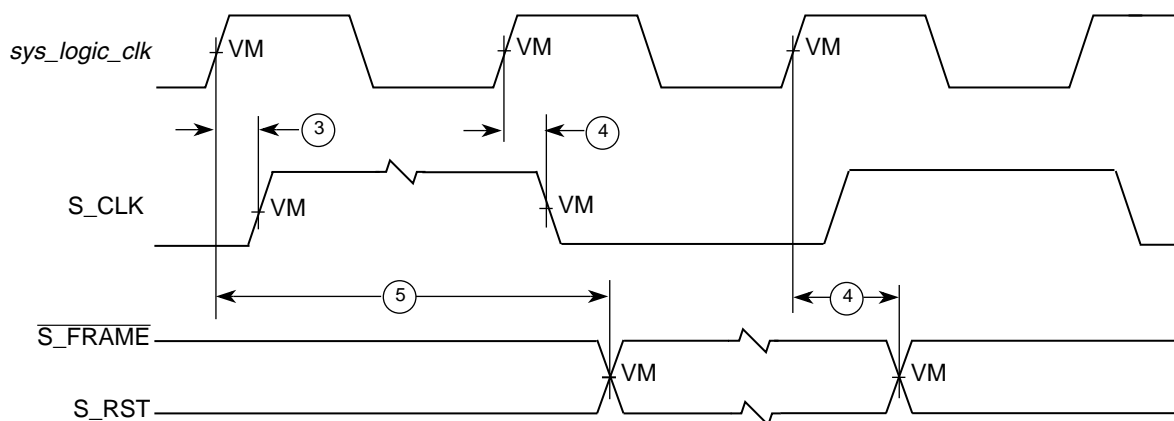
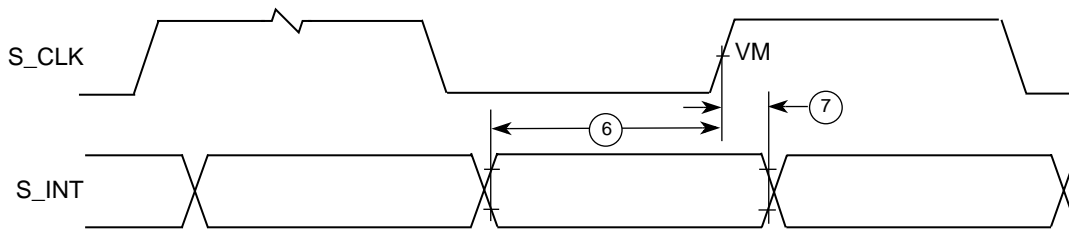

Figure 18. PIC Serial Interrupt Mode Output Timing Diagram
Figure 19. PIC Serial Interrupt Mode Input Timing Diagram
2. S_RST, $\overline{\text{S_FRAME}}$, and S_INT shown in Figure 18 and Figure 19, depict timing relationships to *sys_logic_clk* and S_CLK and do not describe functional relationships between S_RST, $\overline{\text{S_FRAME}}$, and S_INT. See the *MPC8245 Integrated Processor User's Manual* for a complete description of the functional relationships between these signals.